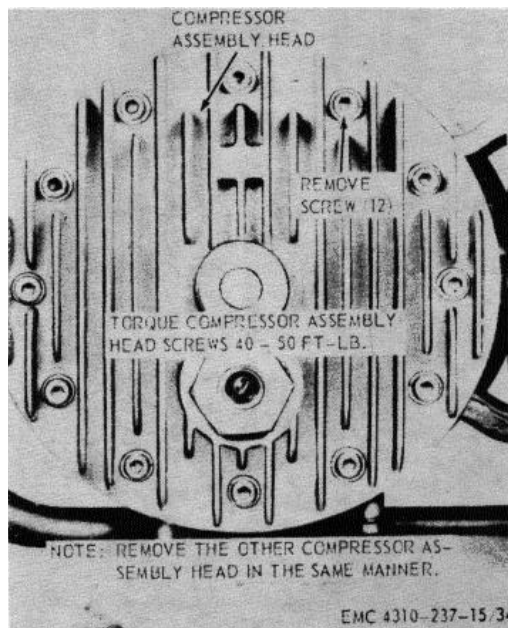

Figure 3-38. Compressor head, removal and installation
- (3) Remove the compressor air cleaners (para 3-58).
- (4) Remove the outlet valves (para 3-60).
- (5) Refer to figure 3-38 and remove the compressor heads.
- (1) Refer to figure 3-38 and install the compressor heads.
- (2) Install the outlet valves (para 3-60).
- (3) Install the compressor air cleaners (para 3-58).
- (4) Install the blower shroud (para 3-56).
- (5) Install the manifold tubing (para 3-54).